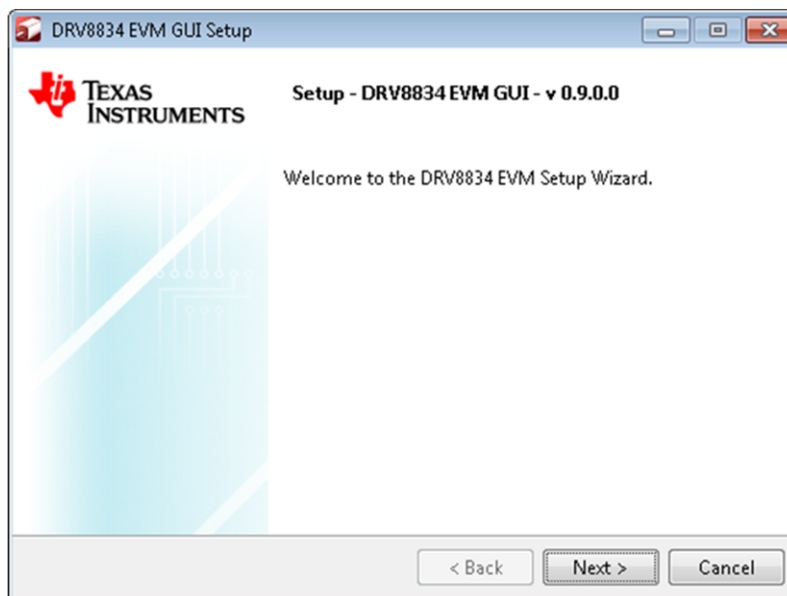

Figure 3. Installation Initialization
2. The screen shown in Figure 3 appears, indicating installer initialization. Click the **Next** button.